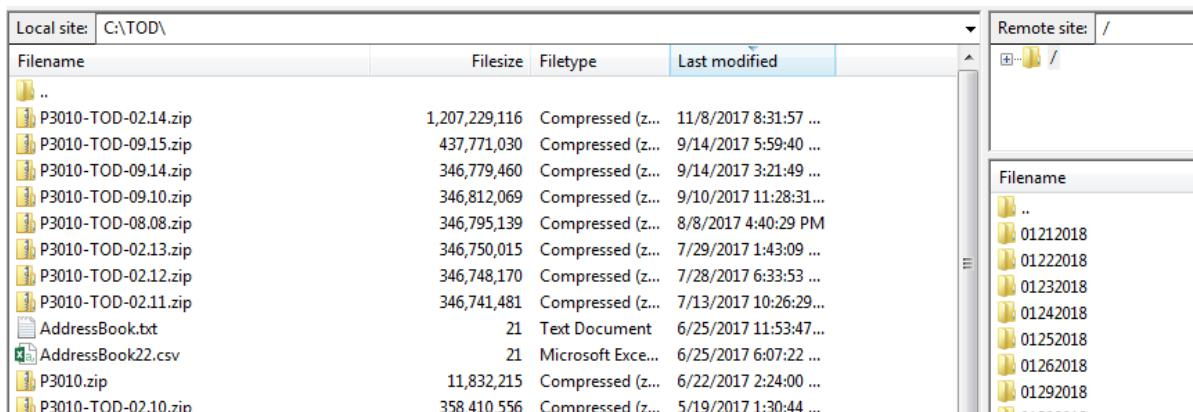

Figure 5-6: FileZilla Client File Transfer Interface
5. Below the connection window the screen will be split into two partitions by a vertical divider. The left partition represents the local computer you are using to access the network. The right partition represents the MDS computer (Figure 5-6). From here you can drag and drop the date folders required from the MDS computer to an appropriate location on your local computer.